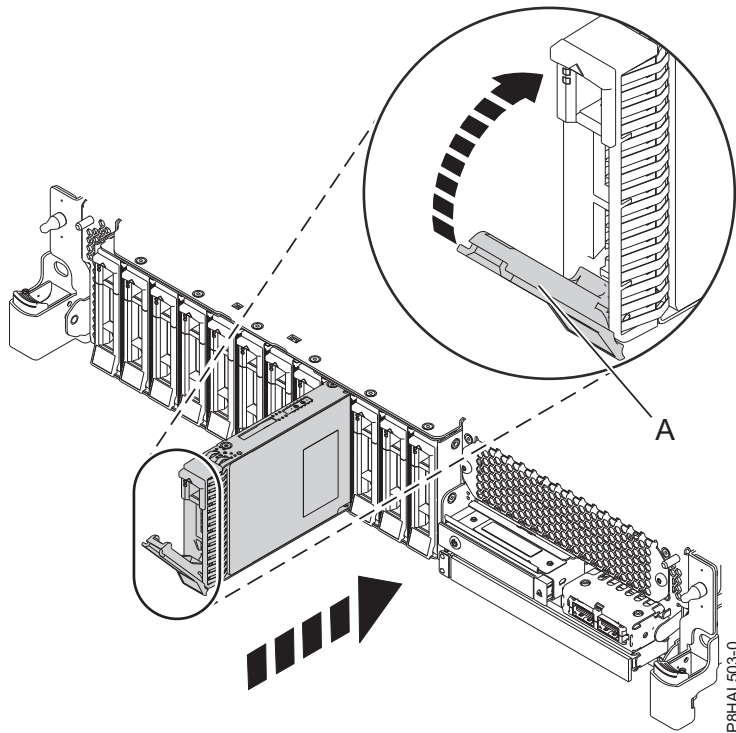

Figure 13. Installing a disk drive in a base function system
4. Unlock the drive bay handle (A) by pressing it and pulling it out toward you. If the handle is not all the way out, the drive does not slide into the system. See Figure 13 on page 17 and Figure 14 on page 18.